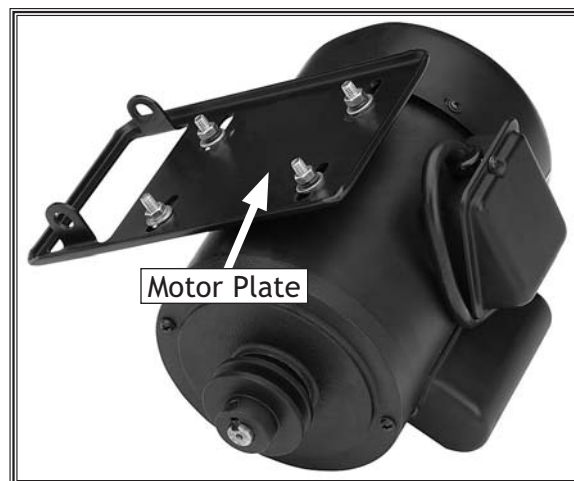

Figure 14. Motor plate installed.
1. Turn the motor upside down and install the motor plate with the 5/16" hex bolts, washer, lock washers and hex nuts from the motor mounting hardware bag (Figure 14).